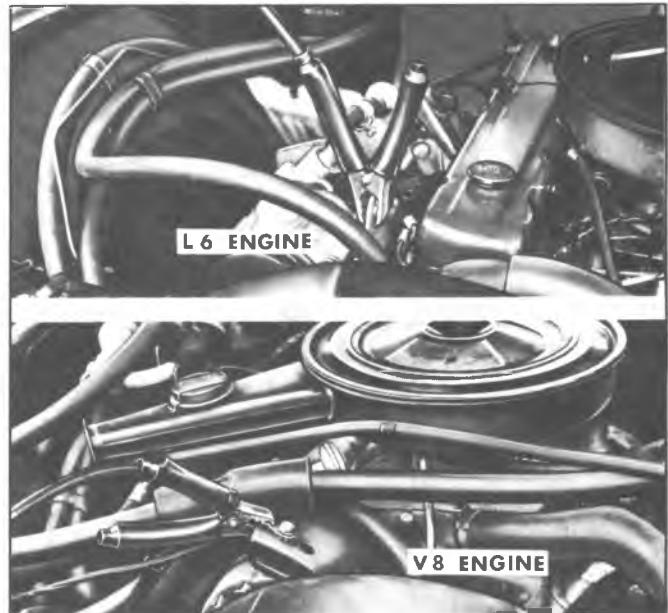

Fig. 4—Booster Battery Cable Ground Connection
- Attach one end of the remaining negative(−) cable to the negative terminal (black color, "−" or "N") of the **booster battery**, and the other end to the engine lift bracket on 6 cylinder models and the delcotron mounting bracket on V-8 models (see Figure 4) (do not connect directly to negative post of dead battery)-taking care that clamps from one cable do not touch the clamps on the other cable. Do not lean over the battery when making this connection.